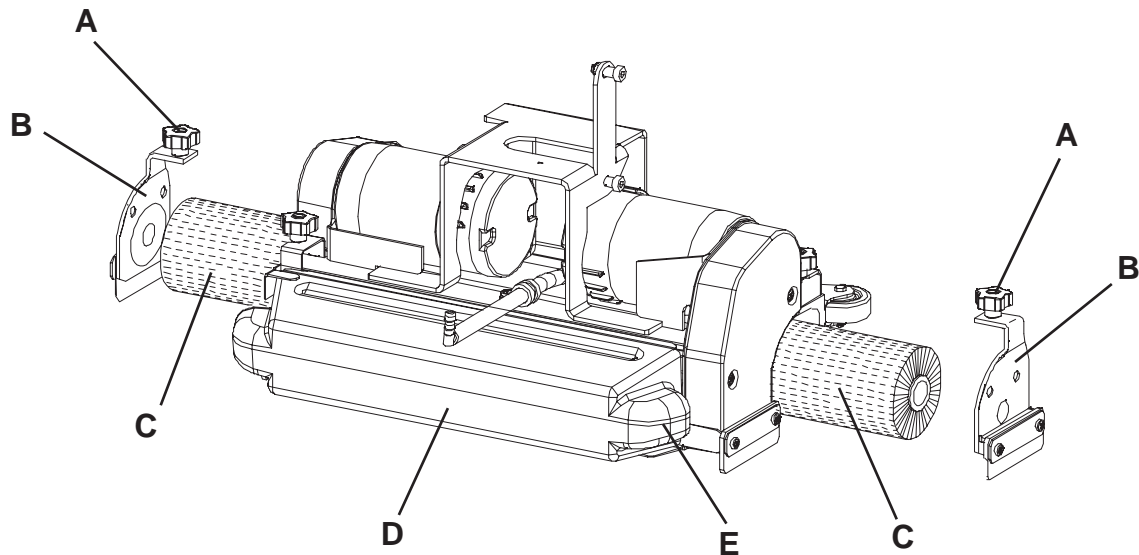

Figure 3
1. Turn the ignition key (80) to "0".
2. Lift the cylindrical brush deck by pressing the pedal (11).
3. Remove the handwheels (A, Fig. 3) and the lids (B) by pushing them downwards and pressing on the handwheels.
4. Install the cylindrical brushes (C).
5. Install the lids (B) and fasten them with the handwheels (A).